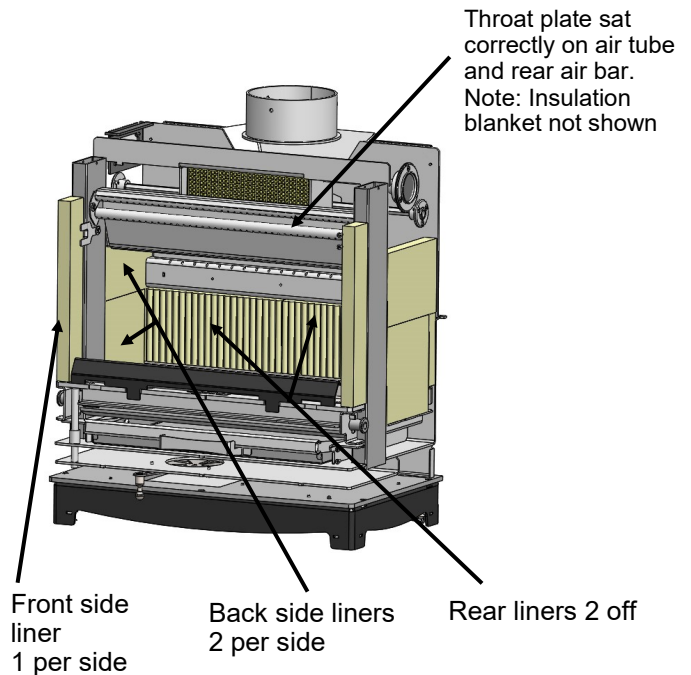

Fig 2
- Repeat for the other set of rear side liners. (See Fig 2&3)
- Insert one front side liner in each side of the front of the stove. Secure in place with the front liner clamp as shown. (See Fig 2&3)